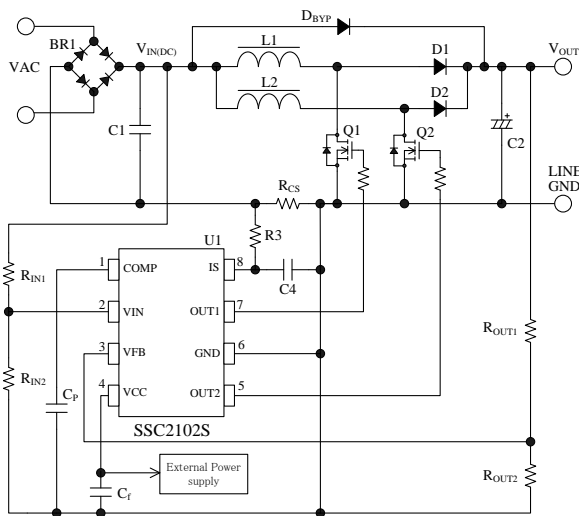

Figure 9-1 IC peripheral circuit
- $P_O$ : PFC Output power per phase (W)
- $V_{INRMS(MIN)}$ : Minimum input RMS voltage (V)
- $V_{INRMS(MAX)}$ : Maximum input RMS voltage (V)
- $V_{OUT}$ : PFC output voltage (V)
- $I_{INRMS}$ : Input RMS current (A)
- The symbols of components are defined as shown in Figure 9-1.